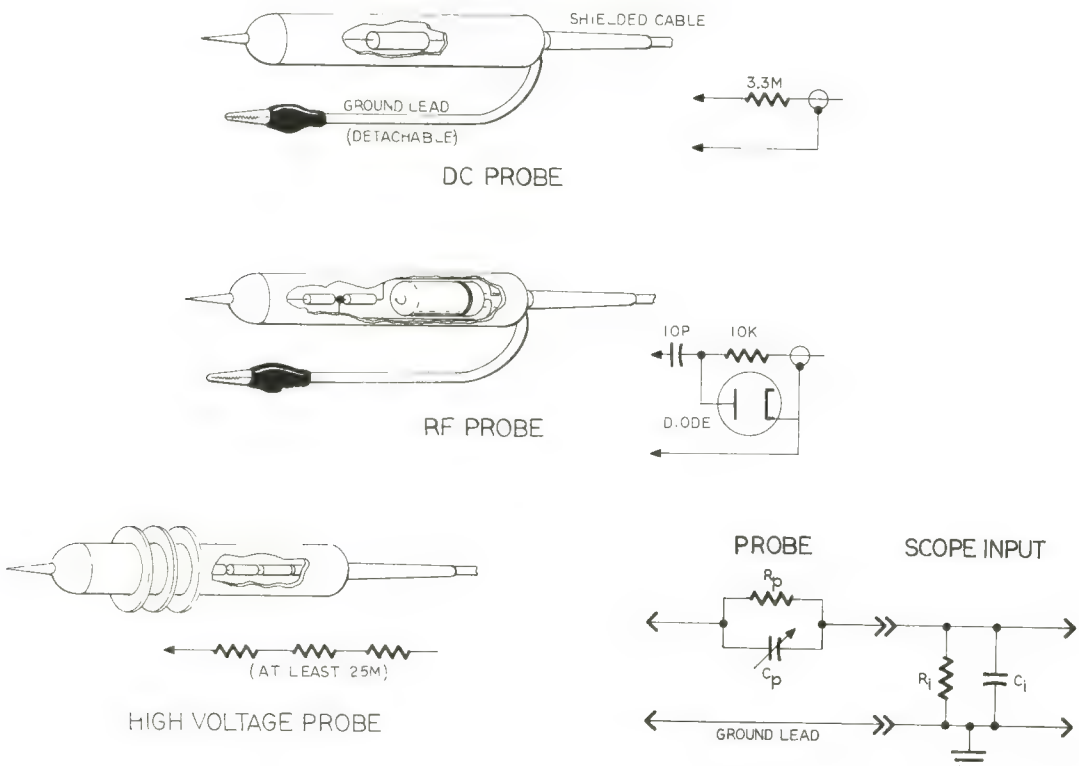

Figure P-20
probe—Assembly consisting of test lead and convenient manual connecting device for touching or temporarily latching to a measuring point, so that the meter, oscilloscope, or other instrument to which the test lead is connected may make a reading. A probe should: (1) not load the circuit; (2) not distort a.c. signals; (3) not pick up unwanted signals. Some probes contain circuitry for demodulating r.f. signals, for attenuation of high voltages, for measuring a.c. current without breaking the circuit (clamp-on or clip-on probe), and so on. Where the probe's internal circuitry requires a power supply it is called an active probe; if no external power is needed it is called a passive probe. (See Figure P-20.)